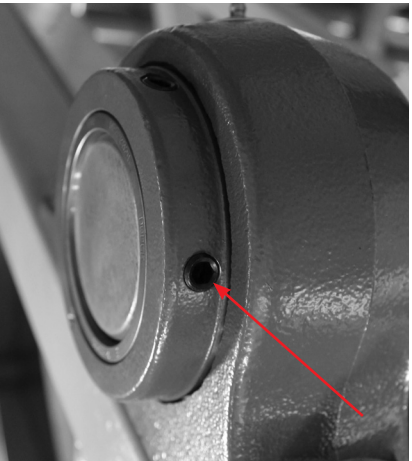

FIGURE 35. The bearing set screws, one on each side of the rotor, should be checked for tightness every six months.
- 1) The bearing set screws should be checked periodically for tightness. A bearing set screw is located on each side of the rotor (See **FIGURE 35**). **RECOMMENDED CHECKING FREQUENCY** – Bearing set screws should be checked at start-up, one month after start-up, then every 6 months thereafter.